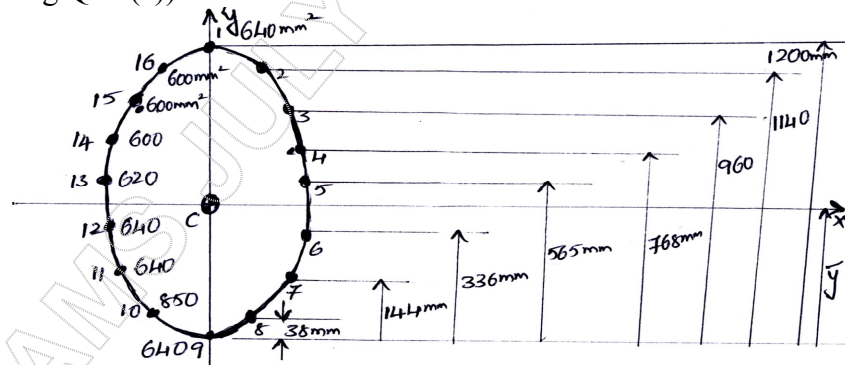

Fig.Q.10(a)
- 10 a. The fuselage section is subjected to a bending moment of 100kNm applied in the vertical plane of symmetry. If the section is completely idealized into a combination of direct stress carrying booms and shear stress only carrying panels. Determine the direct stress in each boom. (Refer Fig.Q.10(a)). (10 Marks)
- b. The wing section shown in following Fig.Q.10(b) has been idealized such that booms carry all the direct stresses. If the wing section is subjected to a bending moment of 300kN-m applied in a vertical plane, calculate the direct stress in the booms.